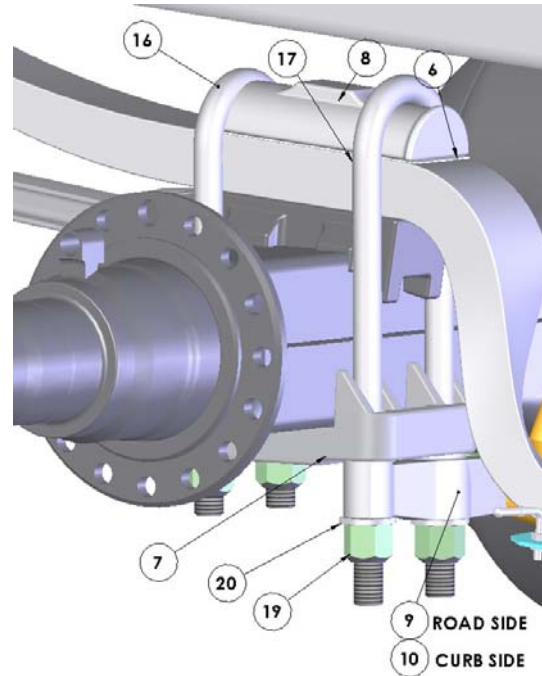

Figure 12
27. Install *new* u-bolt lock nuts (Item 19 – 4 each side) (Figure 12)